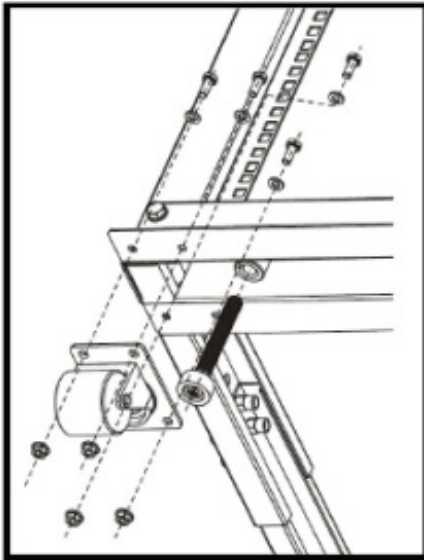

Figure 8
2. Tighten each one of the Leveling Feet by hand, or with a 14 mm Wrench. (Figure 8)
3. Thread four M6 Flange Nuts onto the M6 Screws. (Figure 8)